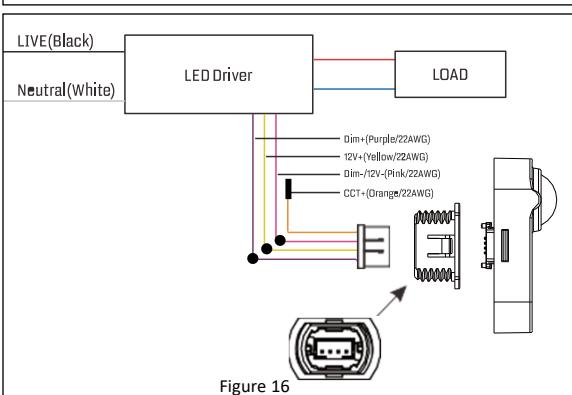

Figure 16
- yellow wire to 12V+Shown in **Figure 16.**